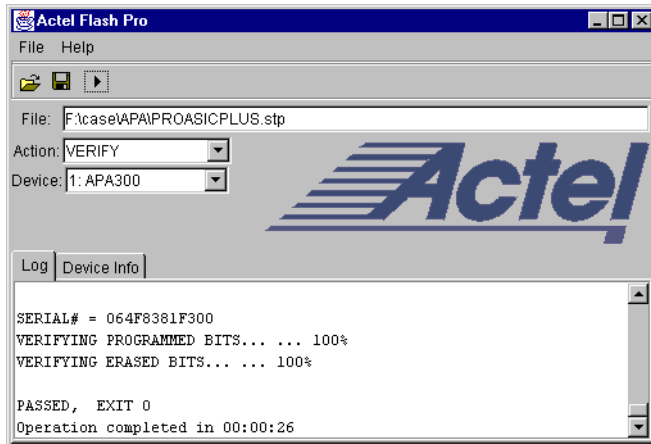

Figure 2-12. Successful Verification
4. Click **Execute** to start the verification. A successful verification will result in Exit 0, as shown in Figure 2-12. If the STPL file is different from the file used for programming, Exit 11 appears in the log window (see “Exit 11” on page 43 for more details).